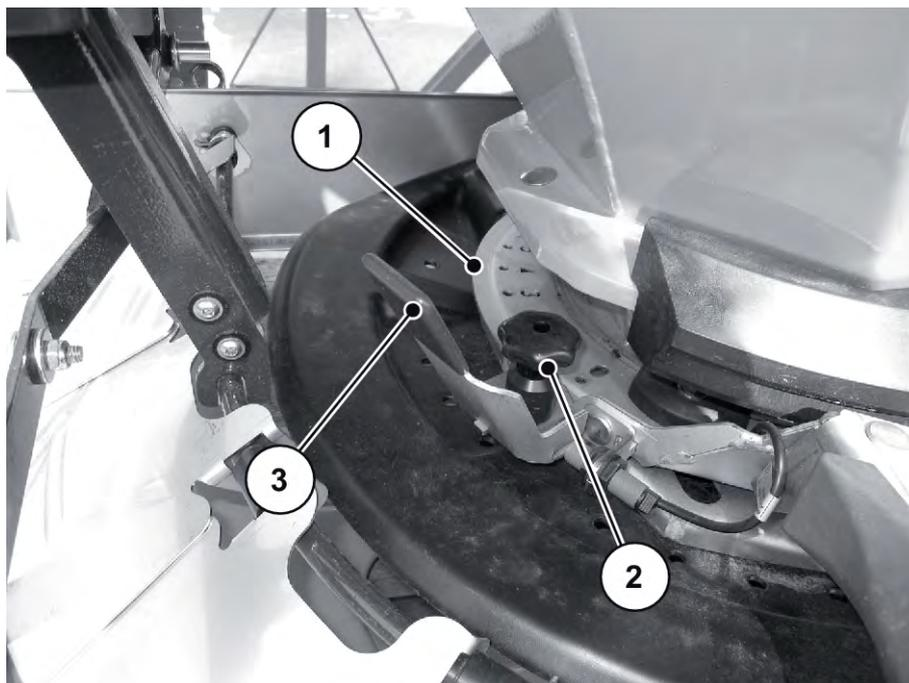

Fig. 30: Adjusting the half-side slide
- ▶ Close the half-side slide. See *Fig. 30 Adjusting the half-side slide*